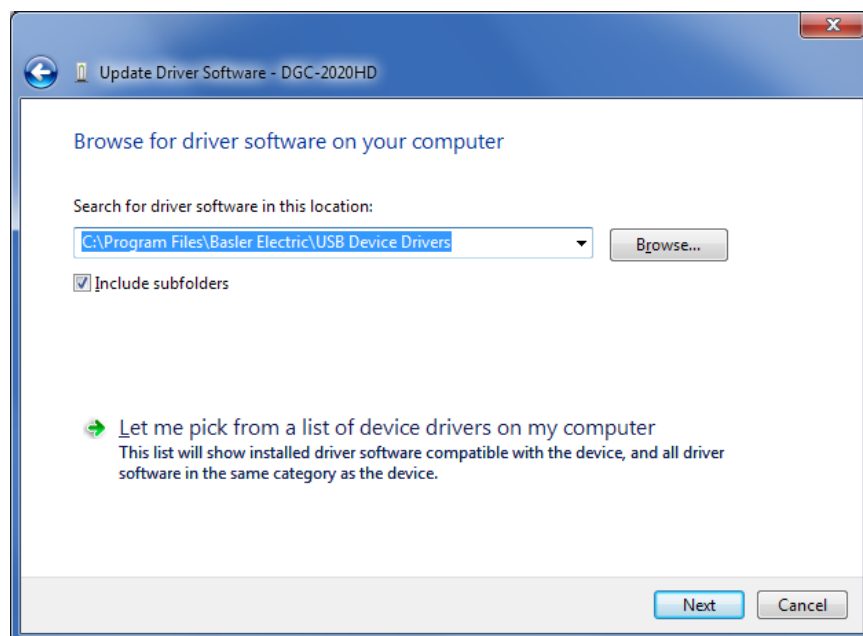

Figure 9-5. Update Driver Software - DGC-2020HD
Step 5. Click Browse and navigate to C:\Program Files\Basler Electric\USB Device Drivers\USBIO. Click Next. See Figure 9-5.